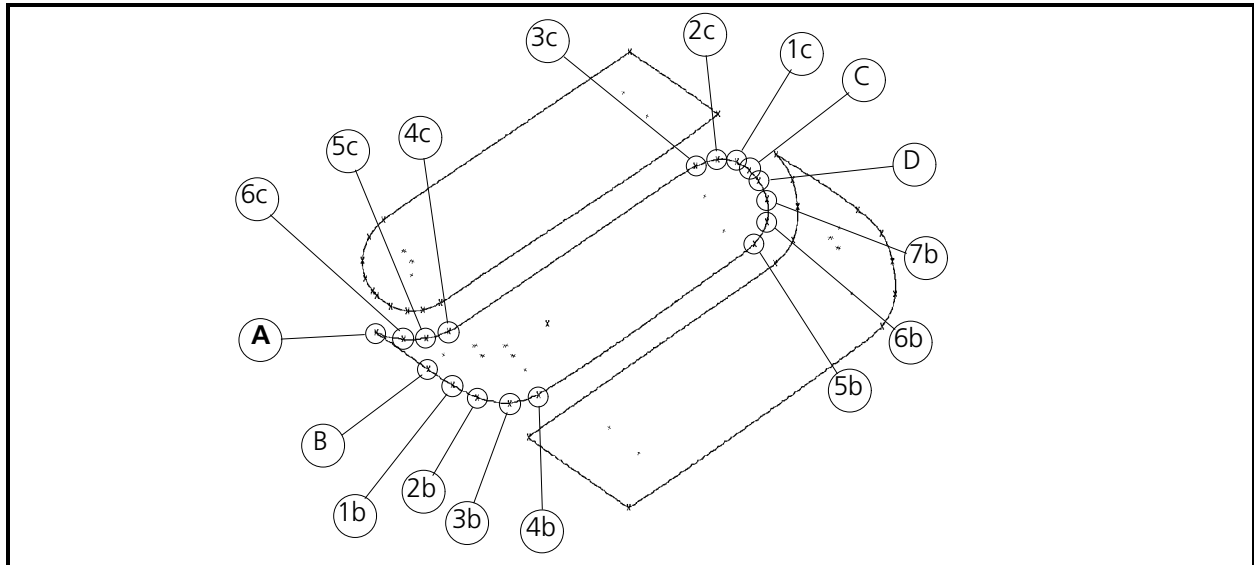

Figure 6-76
8. Refer to Figure 6-76 now and go to point B as with the first section of the logo and enter a Mk2 to define the beginning of the first side.
9. Define the curvature of the shape with Mk1s where needed (see 1b through 7b in Figure 6-76) until you get to point 7b.
2. Without any further instructions, use the knowledge you have acquired and refer to Figures 6-76 and 6-77 to complete the last fill stitching of the Saurer logo. Refer to the previous sections for help, if needed.